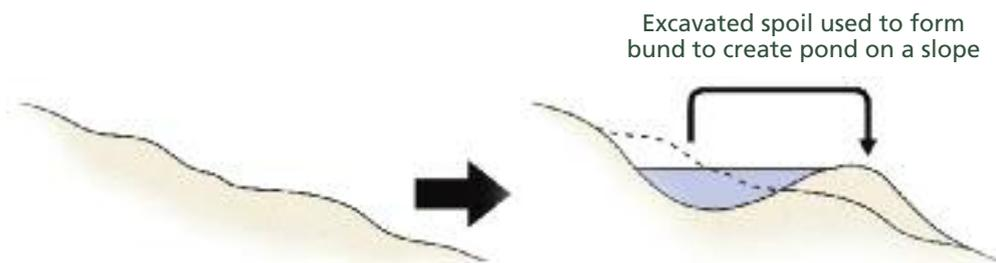

Figure 5. Spoil can be used to form lower bank of pond on slope.
- Spoil can be used to dam up ponds by forming the lower bank of a pond on a slope (Figure 5). This is best for small ponds because there may be issues regarding the strength and safety of dams retaining larger ponds. Such ponds are more likely to be considered engineering operations and require planning permission. For very large ponds, with over 25,000 cubic metres (i.e. 2 ha pond, 1.5 m deep) of water held above the natural ground level, the pond will fall under the Reservoir Act and require professional engineering input and regular monitoring.